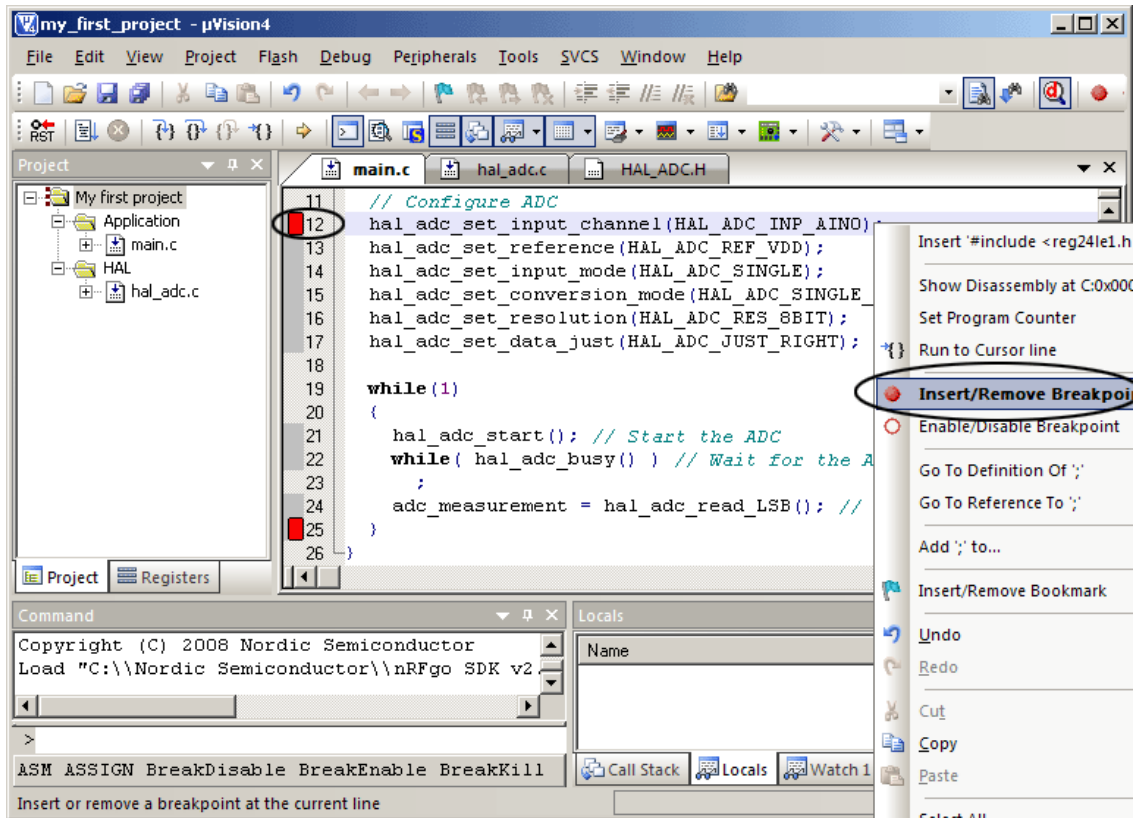

Figure 35. Set breakpoints (shortcut F9)
4. You can set breakpoints in the application by double-clicking on a code line, as illustrated in Figure 35, or right-click and select **Insert/Remove breakpoint**.